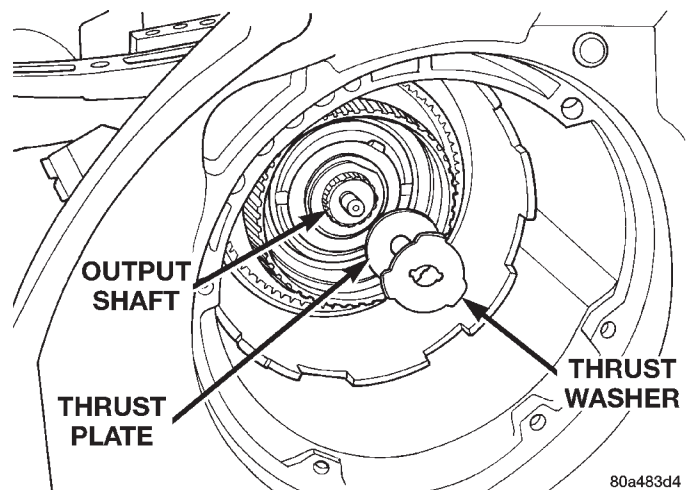

Fig. 81 Output Shaft Thrust Plate and Washer
(20) Remove output shaft thrust washer from output shaft (or from rear clutch hub) (Fig. 81).
(21) Remove output shaft thrust plate and washer from output shaft hub (Fig. 81).